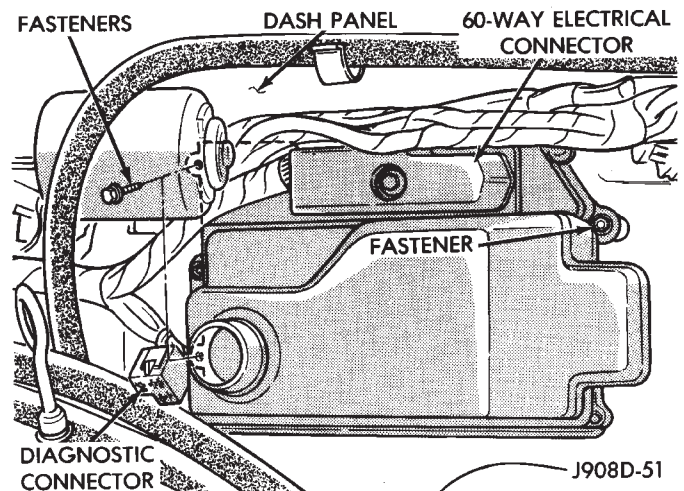

Fig. 7 Powertrain Control Module
(1) Disconnect 60-way connector from the PCM, located on the dash panel near the wiper motor in the engine compartment (Fig. 7).